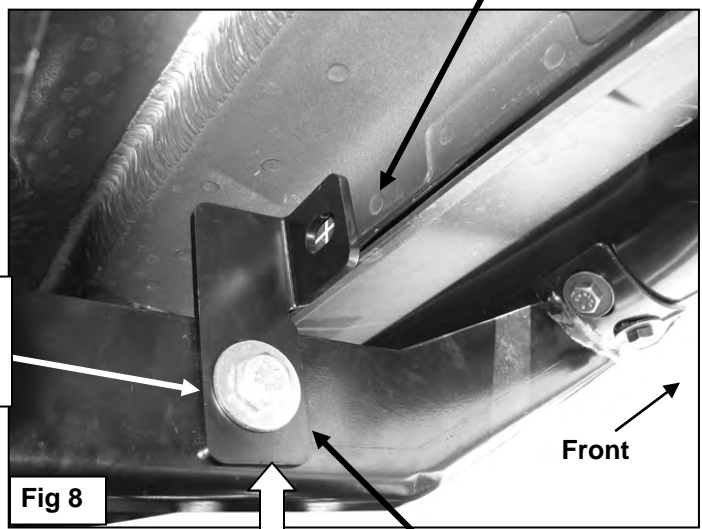

Fig 8
9. Line up the Front Support Bracket with the back of the pinch weld, **(Figure 8)**. Push the Support Bracket up as high as possible to where the pinch weld meets the floor panel. Snug but do not fully tighten hardware.
10. Check the Sidebar for level. Once properly aligned and adjusted, tighten all hardware. **IMPORTANT:** If the Support Bracket is too low and close to the edge of the pinch weld, loosen the Support Bracket and front Bracket hardware. Push the Bracket and Support Bracket up a little into position against the floor panel and away from the edge of the pinch weld, **(Figure 8)**. Level and adjust the Sidebar properly and tighten all hardware.
11. Use the hole in the Support Bracket as a guide to mark the drilling location on the back of the pinch weld, **(Figure 8)**. Once you have marked the location, temporarily remove the Sidebar, the front Mounting Bracket and Support Bracket. Remove the plastic clips securing the plastic rocker cover to the rocker panel.